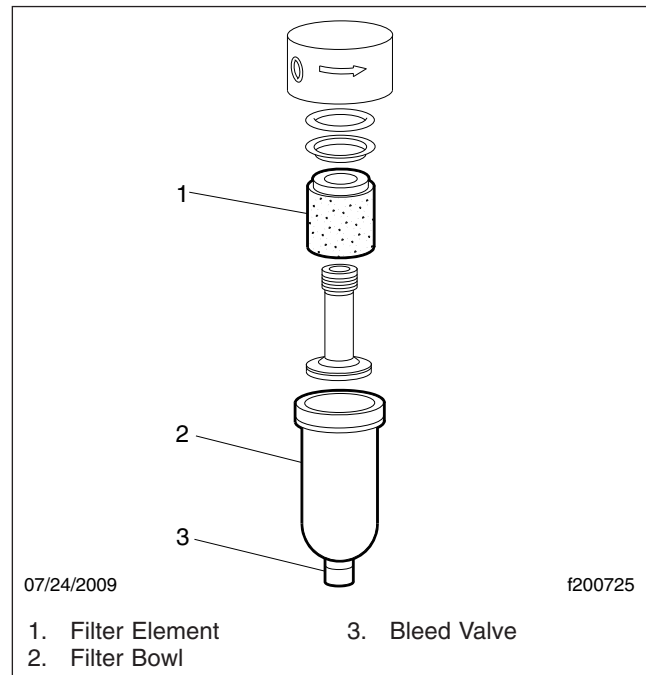

Fig. 7, Horton DriveMaster Solenoid Valve Air Filter
- 3.1 Unscrew the fan clutch solenoid valve air filter assembly and remove the filter element; see **Fig. 7**.